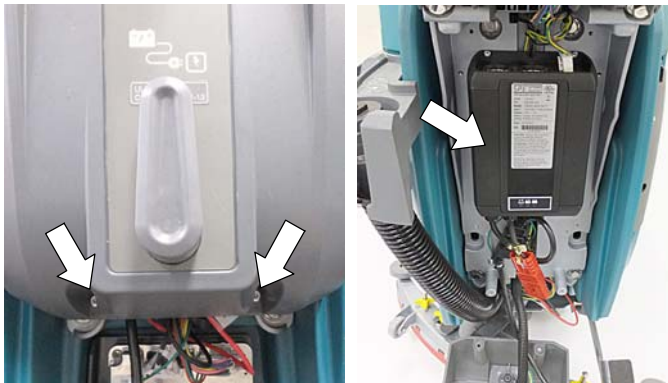

Fig. 1
2. Remove the two lower torque screws at bottom of control console and carefully lower console cover (Figure 1).